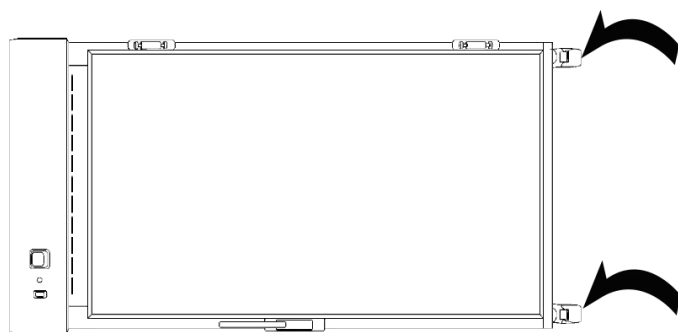

Fig 3.
- Thermoline 150 litre ovens have removable castors for benchtop storage. To safely remove castors, simply tip the cabinet over gently onto its back or side and unscrew the castors from the bottom of the cabinet (**Fig 3**). This is a two person job so please get assistance.